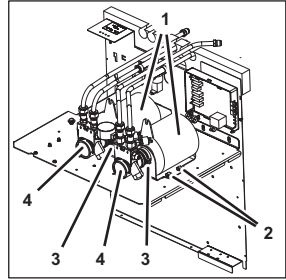

Figure 63
2. Remove the fastening bolts (Figure 63/2) from the carbonator pump motor (Figure 63/1)
3. Remove the clamp (Figure 63/3).
4. Disconnect the carbonator pump motor (Figure 63/1) from the carbonator pump (Figure 63/4).
5. Lift the carbonator pump motor (Figure 63/1) out of the unit.
6. Position the new carbonator pump motor (Figure 63/1) on the carbonator pump (Figure 63/4).
7. Attach the carbonator pump motor (Figure 63/1) to the carbonator pump (Figure 63/4) using the clamp (Figure 63/3).
8. Attach the carbonator pump motor (Figure 63/1) using the fastening bolts (Figure 63/2).